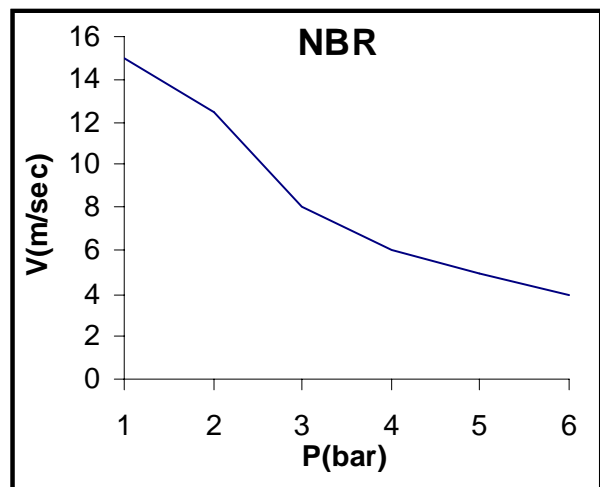

Figure 2
Here follow (figure 2) we reproduce a diagram V(P) in reference to elastomer NBR.